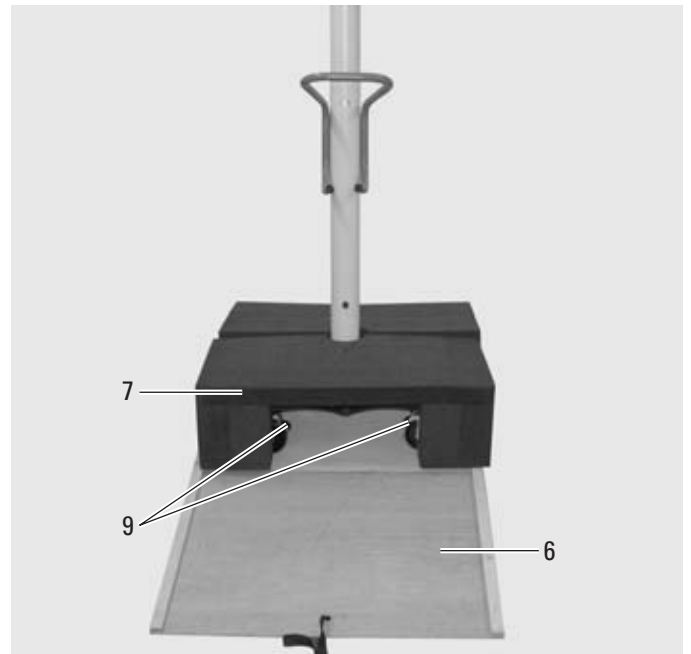

Fig. 2
- ⇒ Remove the column belt (3) and belt grip (5).
- ⇒ Remove the cover (1).
- ⇒ Remove the crate with swing arm (2) from the pallet (8).
⇒ Place the ramp (6) before the pallet (Fig. 2).